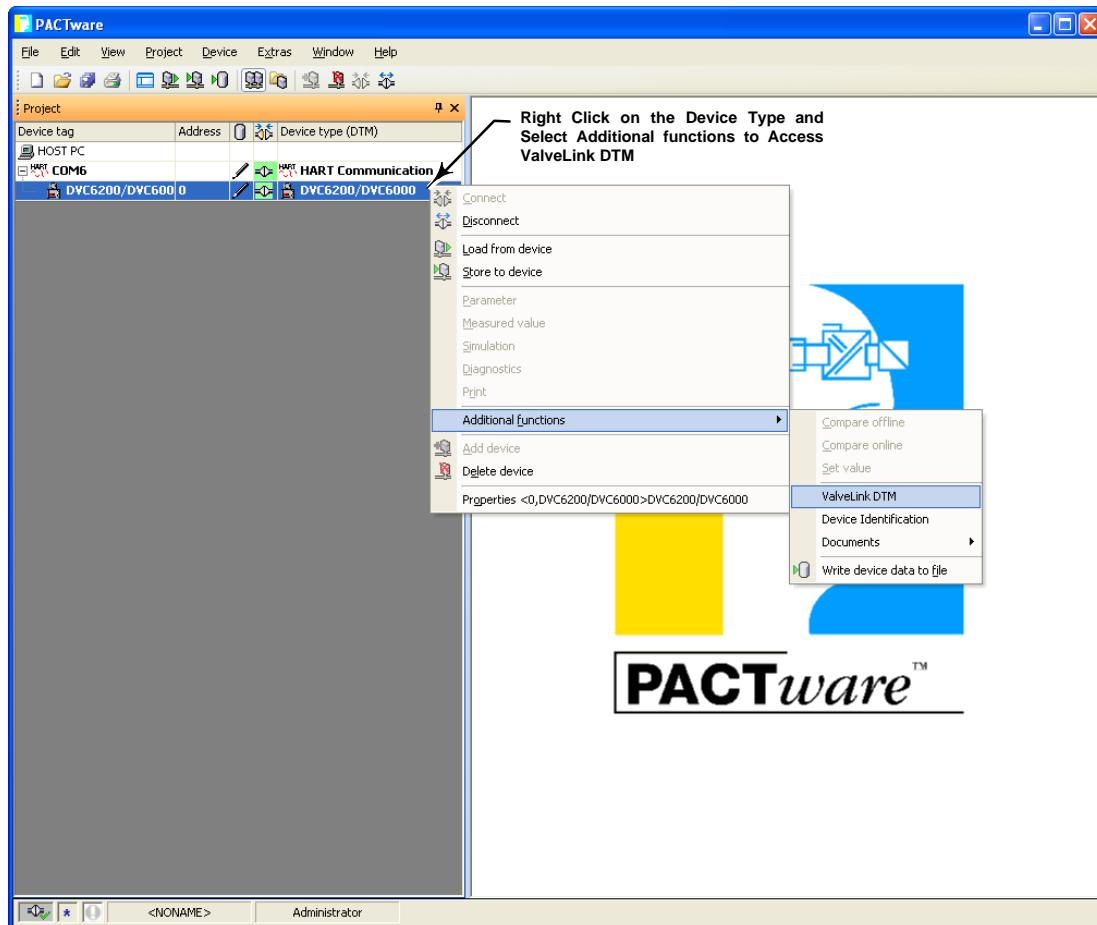

Figure 4-6. Select ValveLink DTM
Step 6: Once connected, select ValveLink DTM as shown in figure 4-6.